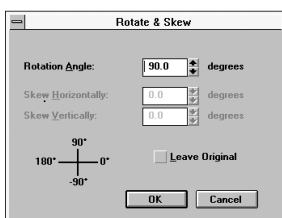

Fig. 7
11. The rotate and skew screen will appear (see **Figure 7**). Click the arrow key on the rotation angle to positive 90 degrees. Then click on OK.